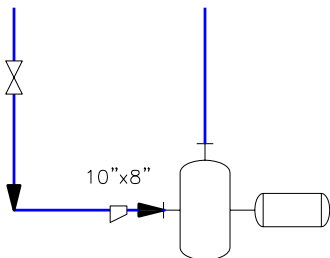

Figure 2-79 Modified size of a line
4. Modify the size of the line to **8"**, refer to Figure 2-79 and choose the **Assign** button from the dialog box.